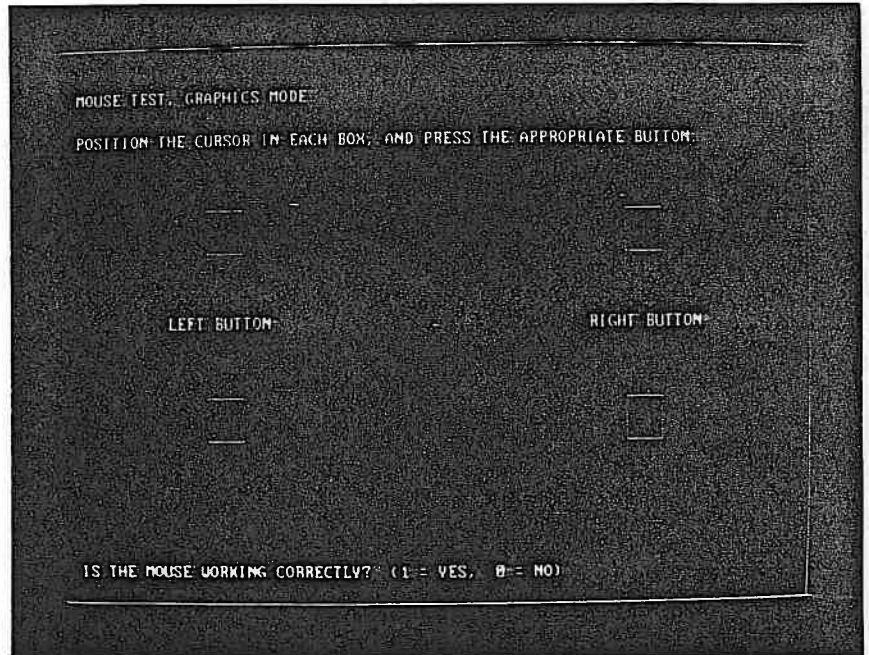

Figure 5-38. Graphic Mode Test Pattern
- a. The first test pattern produced is shown in Figure 5-38.